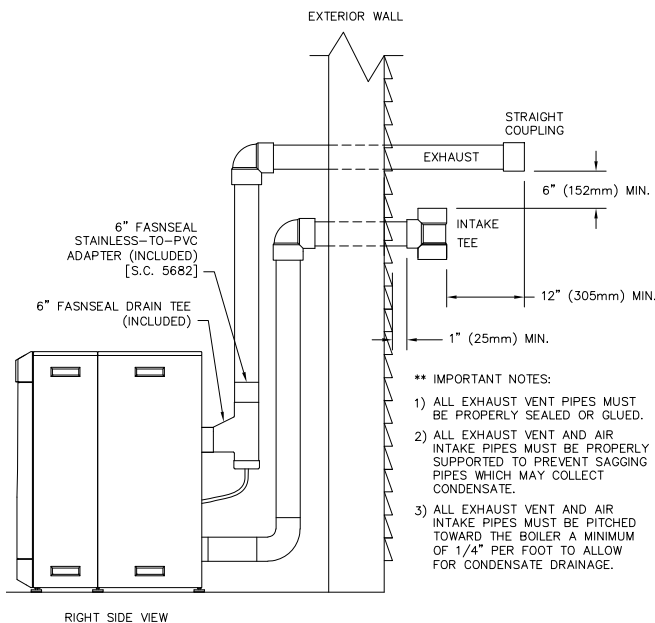

Figure 3.3: Sidewall Exhaust Vent and Air Inlet Pipe
b. Figure 3.3, 3.4 and 3.5 show approved sidewall venting configurations using standard PVC or CPVC fittings. A similar configuration using FasNSeal stainless steel exhaust pipe can be used with either PVC or other approved material for the combustion air intake piping.